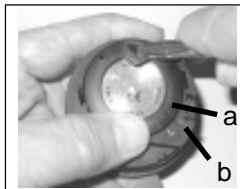

Fig. 83 - Securing the
- Using your fingers, turn the Ring counter clockwise 5 degrees until the tabs engage (Fig. 82), then tighten it 5 more degrees by turning it counter clockwise with the aide of a small blade screwdriver (Fig. 83).
N **NOTE:** While tightening (turning) the Retaining Ring, exert continuous inward pressure on it until it is secured in the proper position. A small symbol located on the Ring should be aligned with the Locked symbol located on the Housing (Fig. 83 a/b)